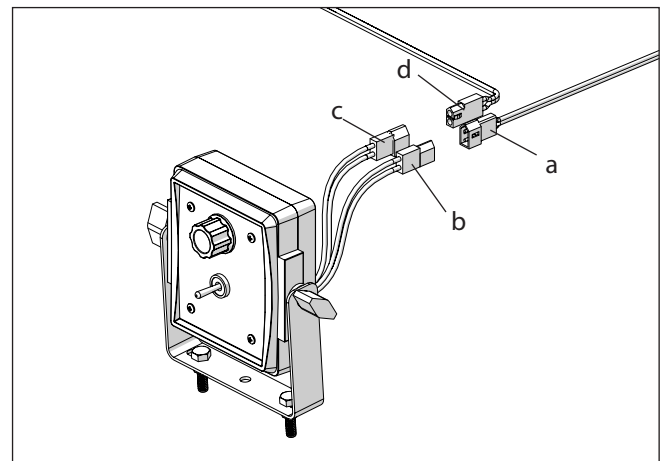

Figure 6: Wiring Harness
1. Connect the orange and blue pump wiring harness (a) to the correct plug on the control box (b) (Figure 6). The control box's wiring harnesses are color-coded for convenience.
2. The remaining black and red control box plug (c) needs to be connected to the corresponding power wiring harness (d) (Figure 6).